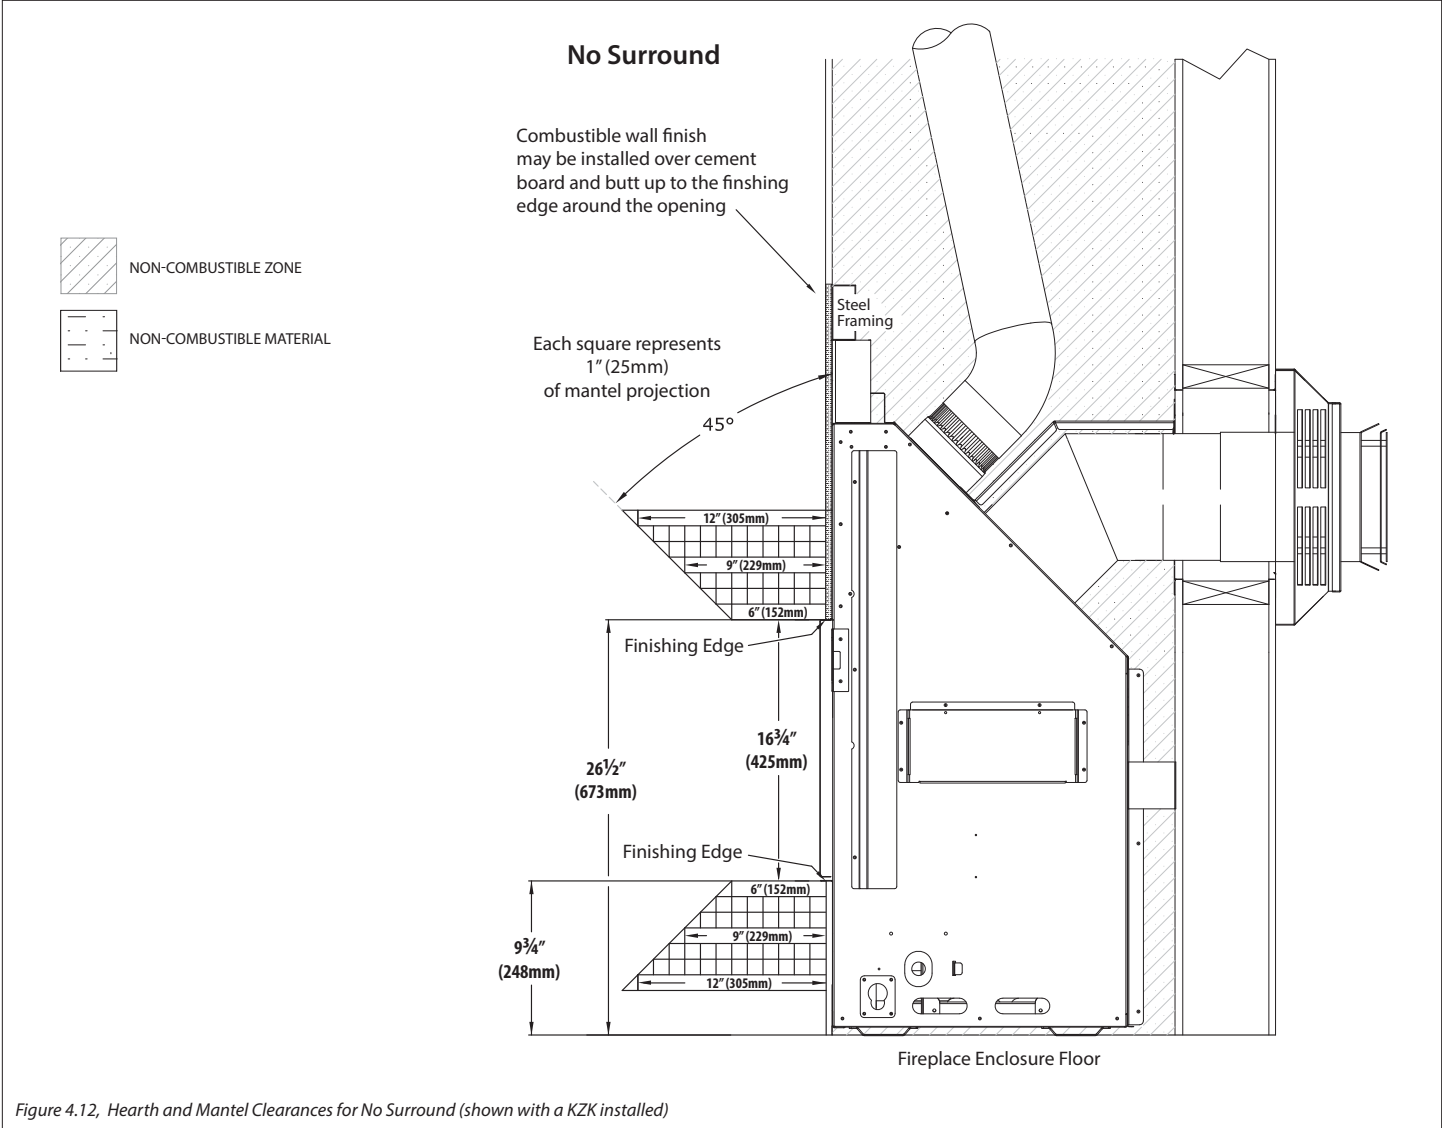

Figure 4.12, *Hearth and Mantel Clearances for No Surround (shown with a KZK installed)*
- Combustible Hearth and Mantel Projections - See 4.3 Masonry Finishing Guidelines for Optional Surrounds on page 31 if installing an optional surround. See Figure 4.12 on the following page if installing with no surround.